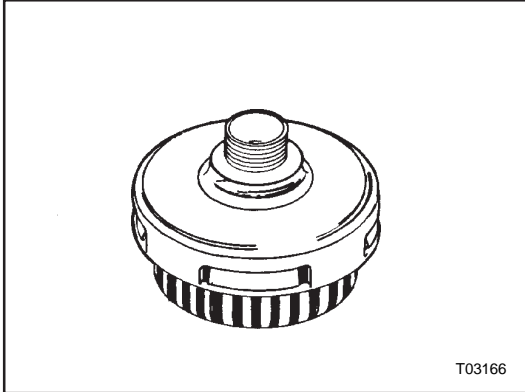

**Figure 11: Pressure protection valve**
**PRESSURE PROTECTION VALVE - Figure 11**